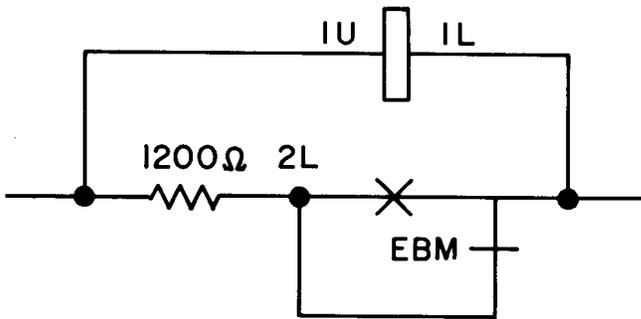

Fig. 3—Winding, Resistor, and Contact Arrangement
2.01 Prior to performing the timing test, the portion of the frame on which the relay is mounted must be removed from service. This may be accomplished by means of the Maintenance Teletypewriter (TTY) in accordance with Section 231-130-301. When the frame has been made busy, remove the circuit pack containing the relay to be tested. If the relay is not in a system, it must be wired to return the operate and nonoperate pulses. Figure 3 illustrates this method.